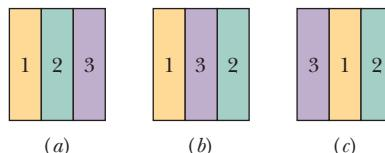

Figure 18-26 Question 6.
- 6** Figure 18-26 shows three different arrangements of materials 1, 2, and 3 to form a wall. The thermal conductivities are  $k_1 > k_2 > k_3$ . The left side of the wall is  $20^{\circ}$  C higher than the right side. Rank the arrangements according to (a) the (steady state) rate of energy conduction through the wall and (b) the temperature difference across material 1, greatest first.